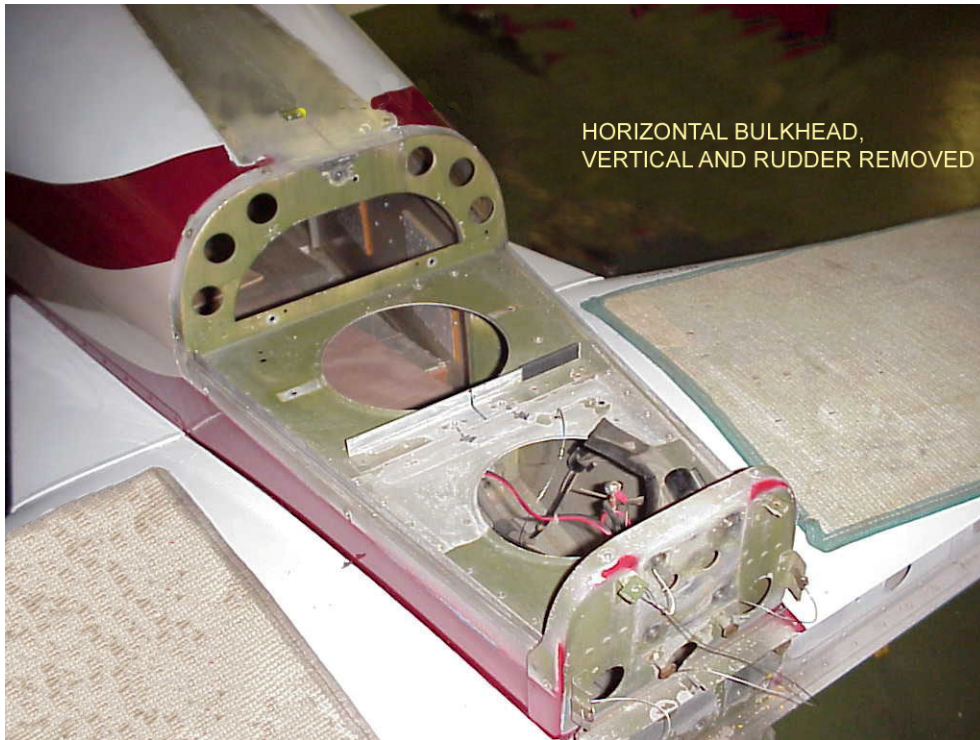

FIGURE 2
2. Remove the ELT and the ELT mount bracket to provide access to the aft fuselage structure through the lightening holes in the horizontal bulkhead. (Figure 2)